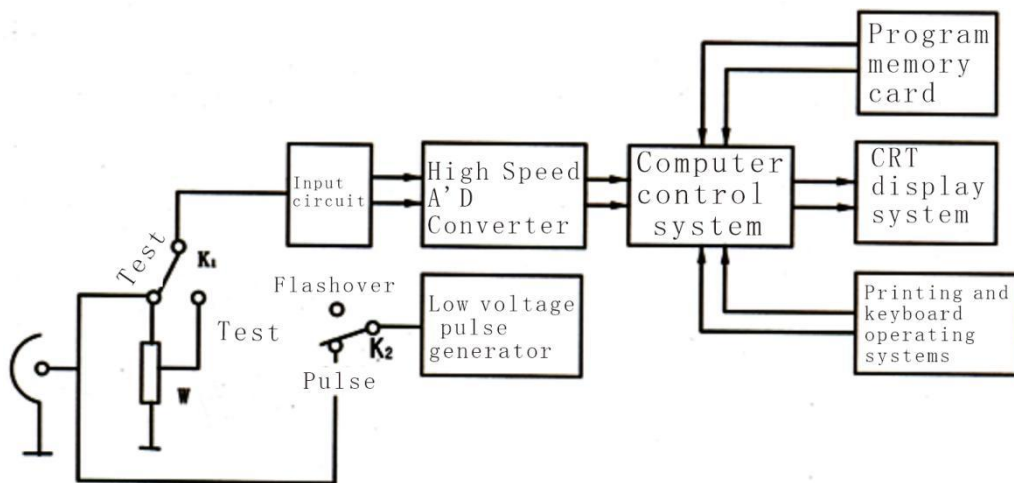

Fig 5-1
(1) Traveling wave method: When the electric wave is transmitted in the transmission line, if the transmission line is not uniform, that is, the characteristic impedance of a certain point in the transmission line changes, when the electric wave is transmitted to this point, the electric wave will not only continue to transmit farther, but also will be transmitted in the opposite direction. Returning to the test end, we call this reversely transmitted radio wave the reflected wave, and the phenomenon that the radio wave transmits in the opposite direction is called the reflection phenomenon of the radio wave. The so-called traveling wave refers to the general term of the incident wave and the reflected wave.
(2) When the electric wave is transmitted in the transmission line, the polarity of the echo at the short-circuit point is opposite to that of the transmitted pulse, and the polarity of the echo at the open-circuit point (including the cable end) is the same as that of the transmitted pulse. For general low-resistance and open-circuit faults, by using the low-voltage pulse method, the distance between the fault point and the test terminal can be easily determined according to the polarity of the echo.
(3) For high-resistance faults, we use the high-voltage flashover method to test. For leaky high-resistance faults, a high-voltage pulse signal source is used to make the cable fault point flashover and discharge, so that the fault point generates a reflected signal, and the fault reflected wave is detected at the test end. The high-resistance flashover fault uses the DC high-voltage power supply to make the fault point of the cable flashover and discharge, so that the fault point generates a reflected signal, and the fault reflected wave is detected at the test end.
(4) The signal processing process of the cable fault tester: the signal applied to the cable generates a reflected signal after encountering the fault point, and the reflected signal is given to the input circuit. These two signals pass through the high-speed A/D converter and the computer control system successively to convert the analog signal into Store it as a digital signal, process it digitally, send it to the display to display the test waveform, and perform waveform analysis, that is, to complete the rough measurement of the fault distance. As shown in Figure 5-1.